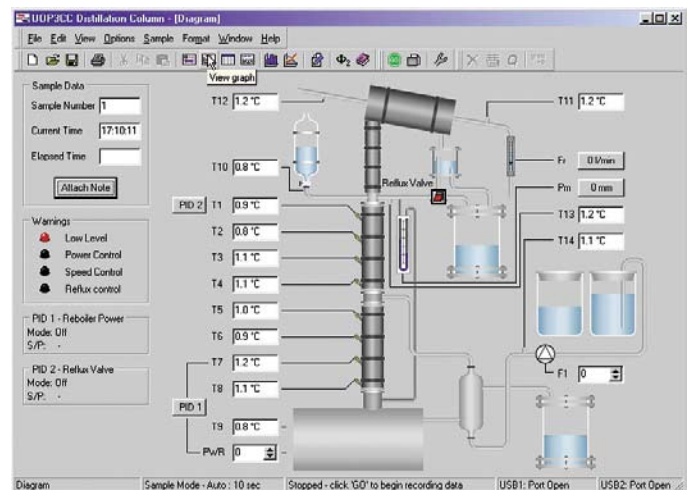

Fig. 8: On-line mimic diagram during batch distillation at constant reflux ratio
- the on-line use of mimic diagrams (Fig. 8)